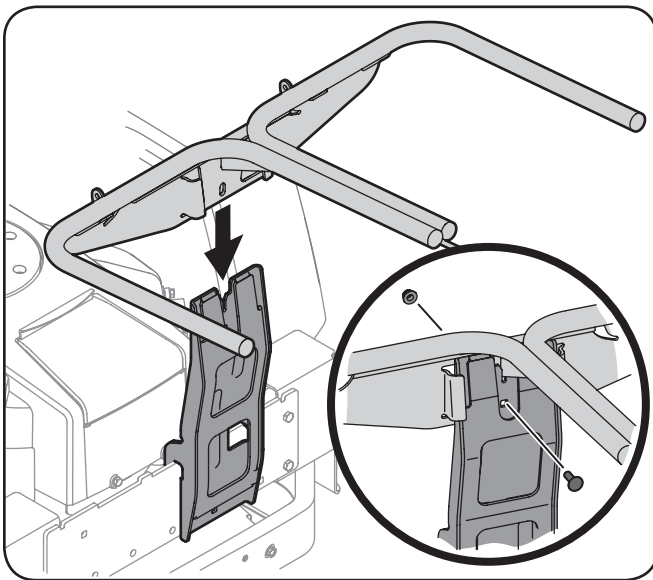

Figure 5-5
- Install and secure the hanger assembly onto the upright support bracket using a 710-0276 carriage bolt and 712-04063 flange lock nut from hardware pack 689-00320. See Figure 5-5.